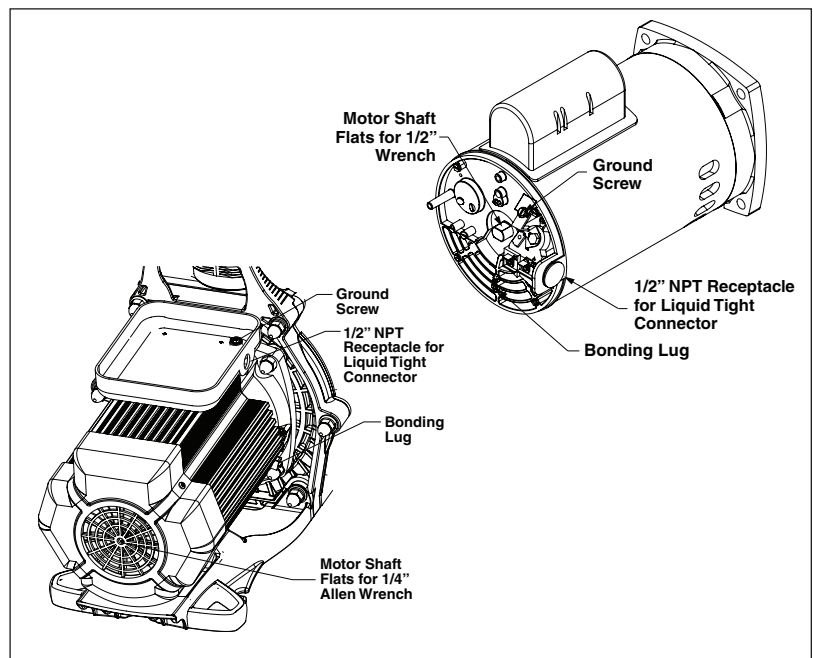

Figure 3: Pump Wiring
1. Permanently ground the motor at the green ground screw (**Figure 3**).